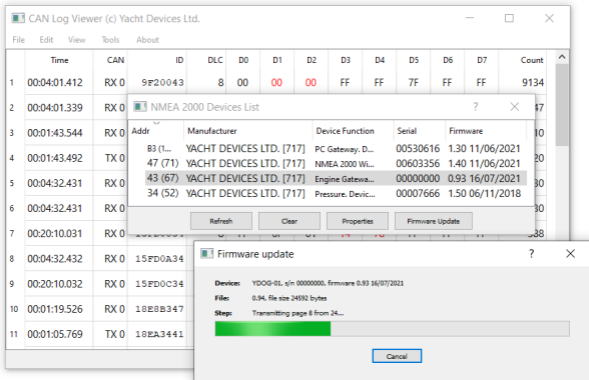

Figure 1. Firmware update of Outboard Gateway
2. Click the «Refresh» button (see Figure 1 at the next page) in the opened window and wait for the Device to appear in the list.